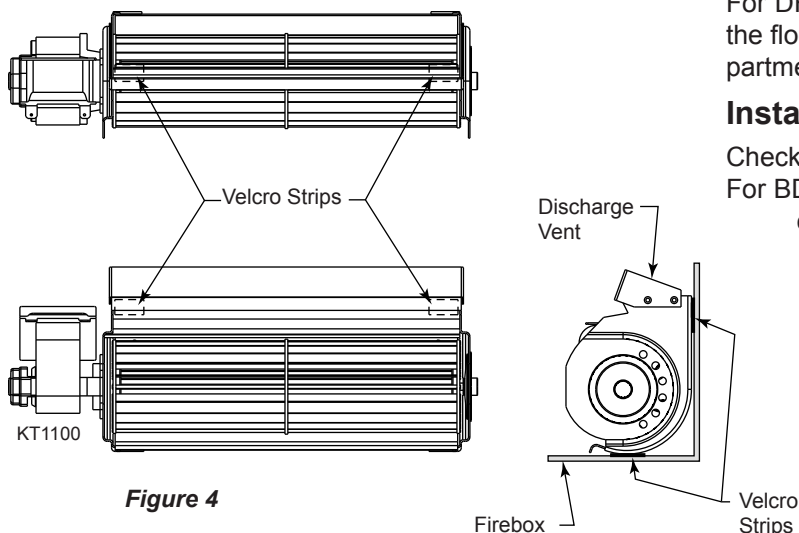

Figure 4
3. Remove the tape from the back of the Velcro and slide the blower into position on the inside back firebox wall. The blower should be centered with the rear blower discharge vent facing up and flat against the firebox back wall and floor. *Figure 4*